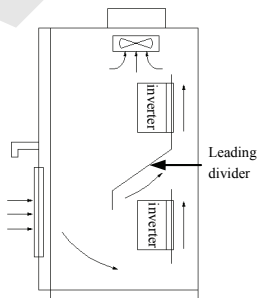

Fig. 3-2 Mounting of multiple inverters
- (3) When install multiple inverters up and down, must apply leading divider between them, see Fig.3-2.